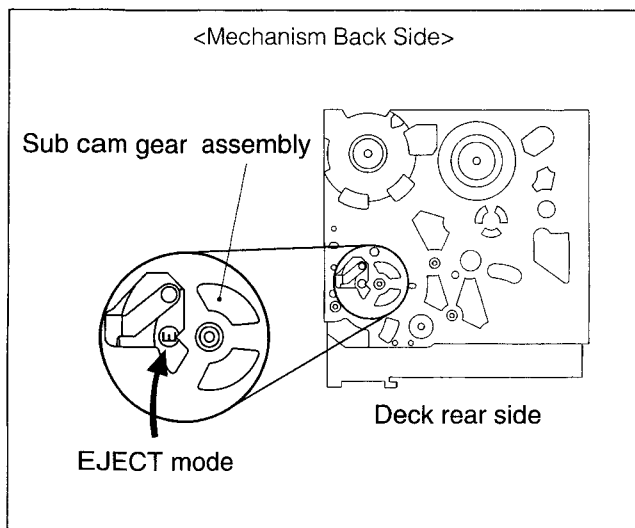

Fig. 2-2-11
- (1) Make the main deck section enter the EJECT mode. (See Fig. 2-2-11.)